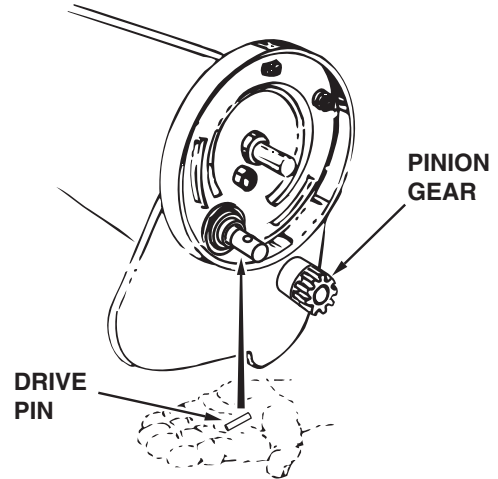

FIGURE 23
3. Remove the gear by sliding it off the brush shaft. (Look for the drive pin, which may fall out of the brush shaft when the ratchet gear is removed.) See figure 23.